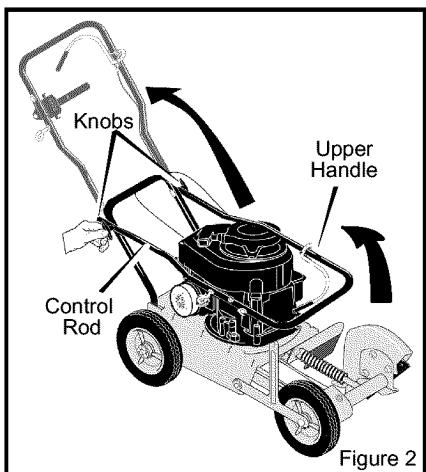

Figure 2
1. Loosen the **knobs** and raise the upper handle to the upright position. See Figure 2.
2. Tighten the **knobs**. Make sure the **knobs** are to the outside of the handles as shown in Figure 2.